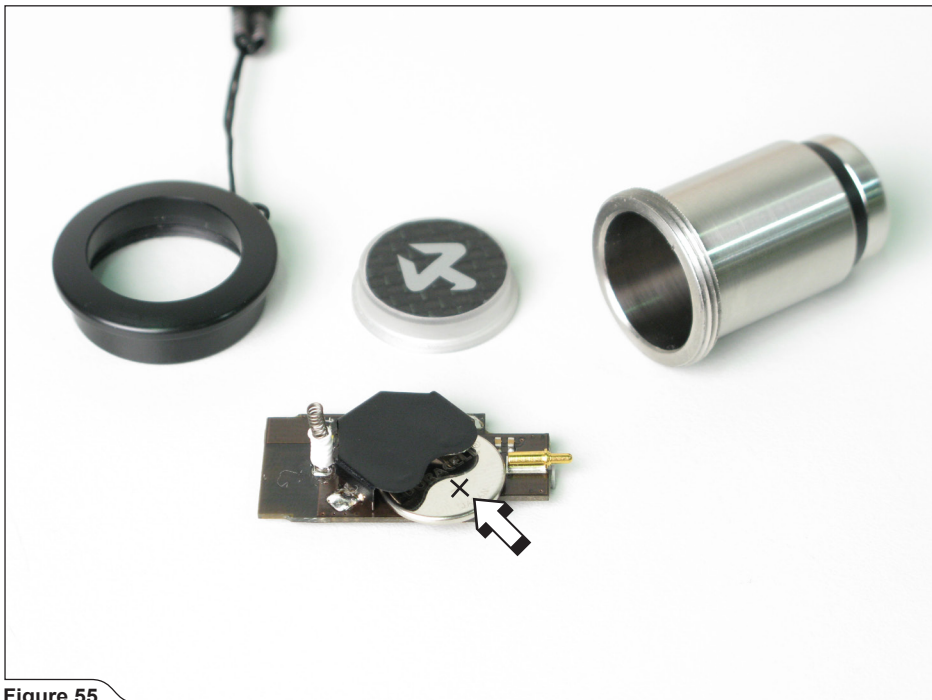

Figure 55
18. For optional wireless kit only: changing of remote keyfob battery (Figure 55).